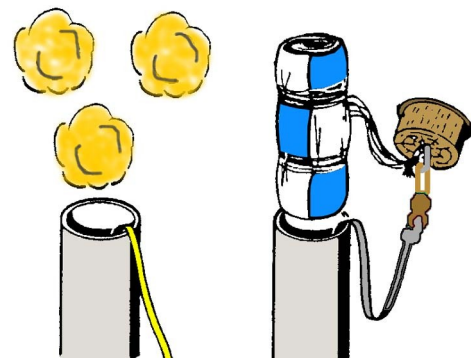

Figure 14
- **Step 36** Attach the snap link of the shock chord to the screw eye of the payload module. As shown in Fig. 14, insert your choice of 5 or 6 flame-resistant wadding sheets, or about 2" of flame-resistant shredded cellulose insulation into the top of the sustainer body tube. Do not pack this material tightly, but tamp down slightly with a dowel. The purpose is only to create a gas seal between the parachutes and the deployment charge on the top of the motor. Next, insert the shock chord on top of the wadding material. Finally, insert the parachutes far enough to clear the shoulder of the payload module.